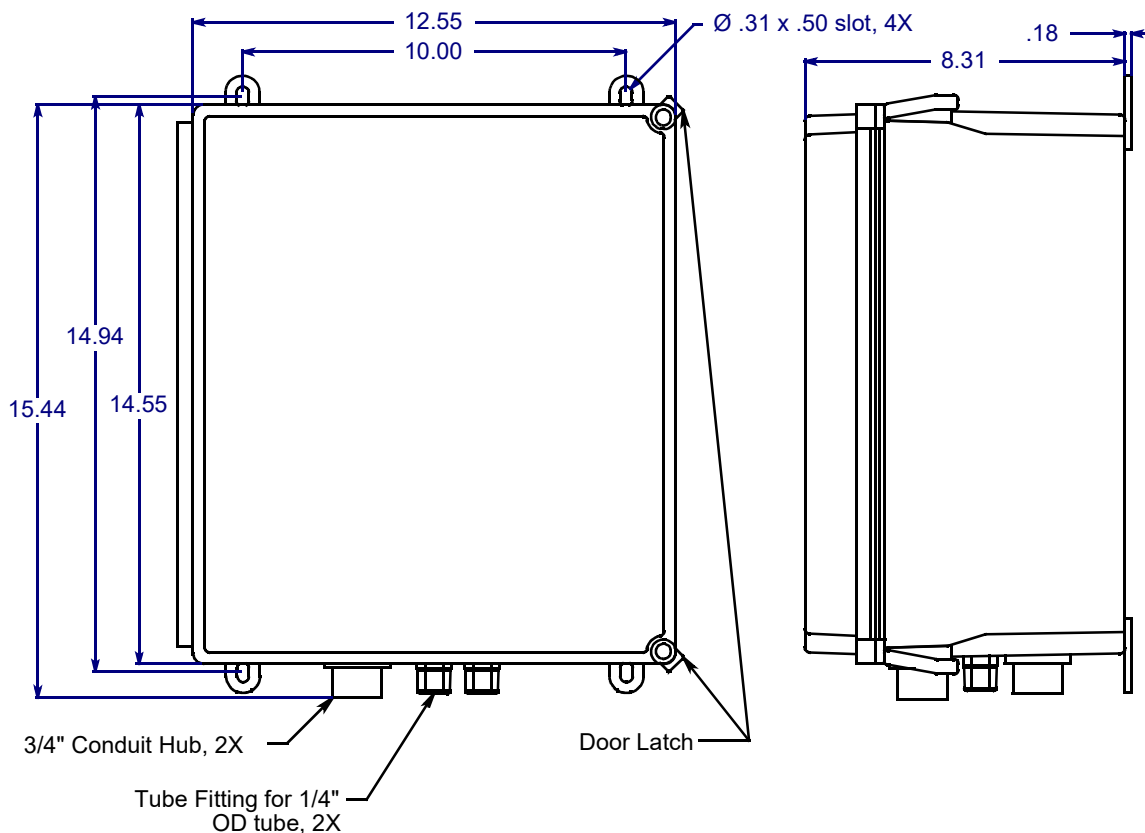

Figure 4: Mounting the Sample Draw Detector
3. Slightly loosen the screw that secures one of the mounting feet to the housing, then rotate the mounting foot 180 degrees (see Figure 4).
5. Connect the cable to the sample draw detector's interconnect terminal strip as shown in Figure 4.